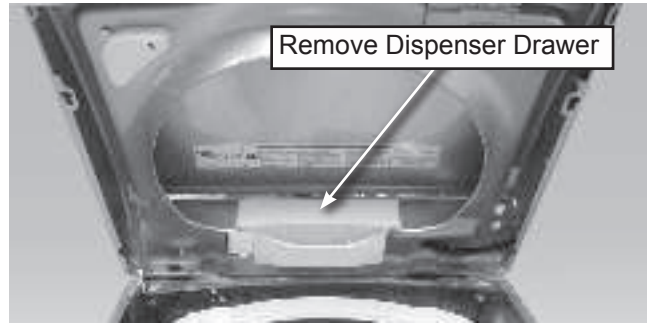

Figure 2
4. Raise the top on the hinges, see figure 2 and the section: "REMOVING THE TOP".
5. Remove the dispenser drawer, see figure 2.